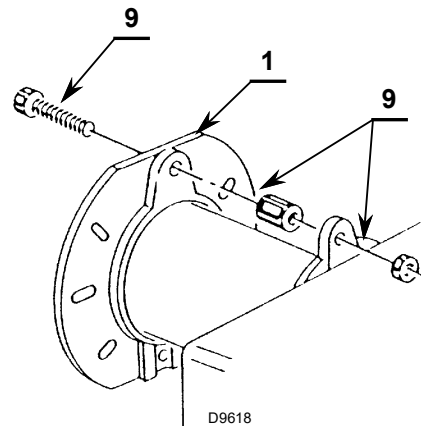

Fig. 9
- Fit screw and two nuts 9)(Fig. 9) on flange 1).